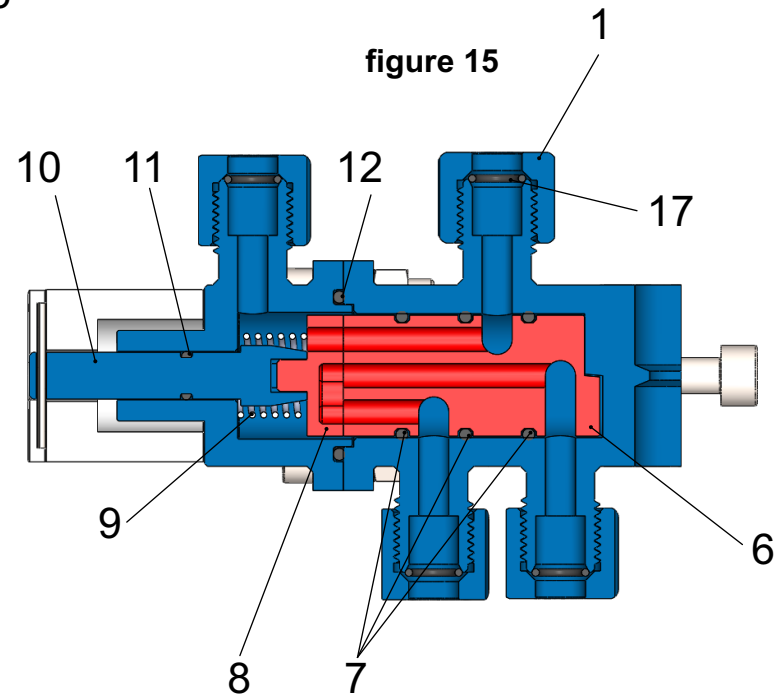

figure 16
11. Turn the bush (15) to the position shown in figure 19a, ensuring that the flat on the shaft (10) is in the position shown in figures 19 and 19a. Holding the float at the top end so that the float arm hangs down, lift the lower end of the float arm and locate it on the bush. Assemble the float guide washer (5, figure 16) and the float guide bolt and washer (6 & 8, figure 16). Refit the assembly to the tank and re-connect the pipes. Follow the Installation procedure from step 14 to bleed the system.